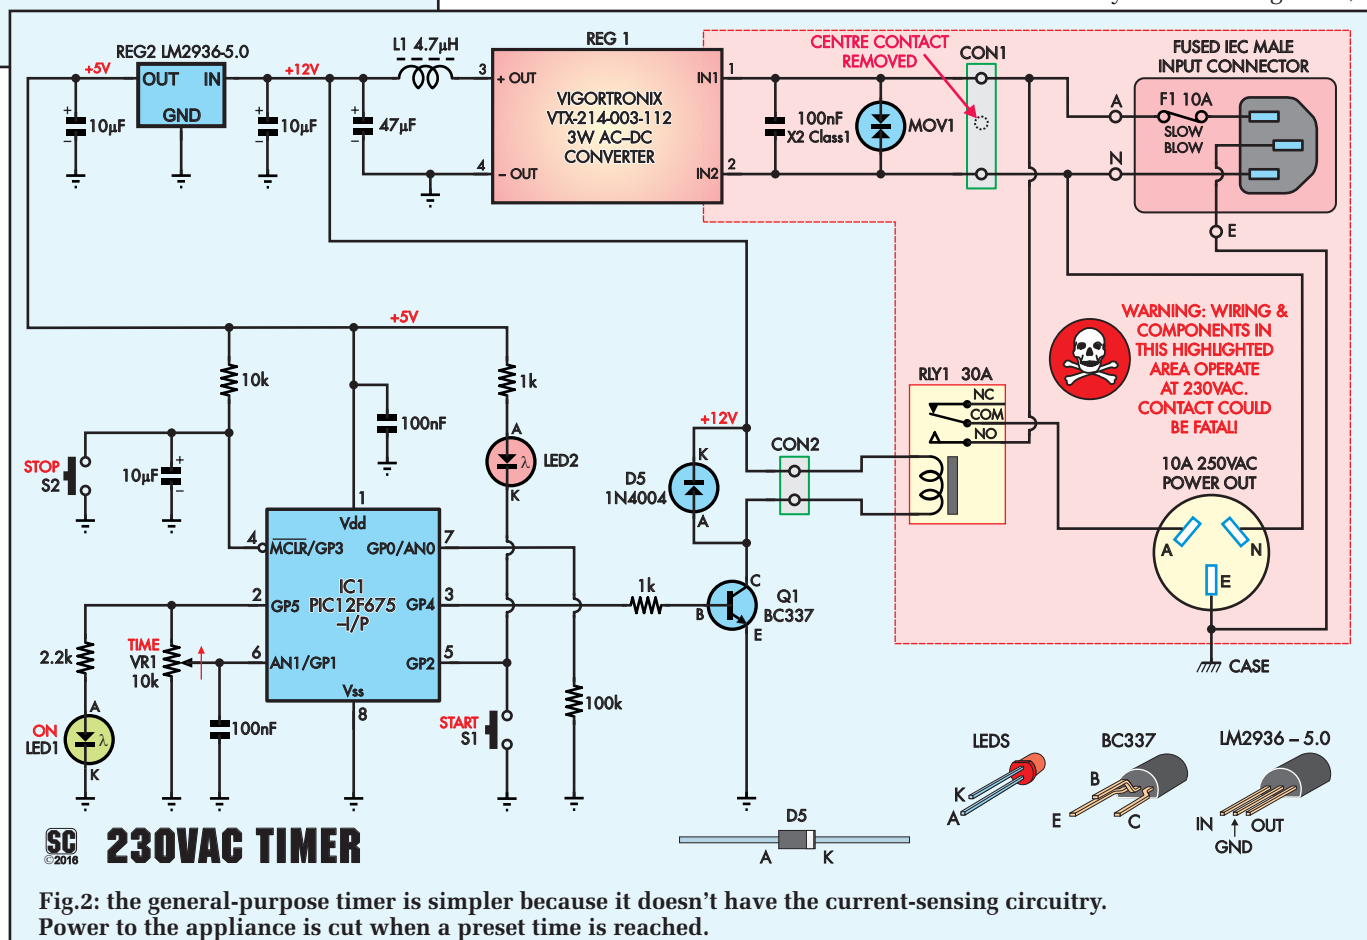

Fig.2: the general-purpose timer is simpler because it doesn't have the current-sensing circuitry. Power to the appliance is cut when a preset time is reached.
So that describes the circuit operation of the Cyclic Pump Timer. Now let's have a look at Fig.2 which is the circuit of the simpler 230VAC Timer.
Note that both versions of the circuit, Fig.1 and Fig.2, use the same programmed microprocessor. It needs to detect which circuit it has been installed in and then it selects the correct software routine. How does it do this?
Each time power is applied to the micro, it briefly pulls the AN0 pin high via an internal pullup resistor. After the pullup is switched off, 100 milliseconds later it measures the voltage at pin 7. If the voltage is above 200mV, that tells the micro that it is connected in the Cyclic Pump Timer circuit and it operates accordingly. On the other hand, if the voltage at pin 7 is very close to zero, that means that there is no 10 $\mu$ F capacitor present and the micro is in the circuit of Fig.2.
- 1 5mm high intensity red LED (LED3 in Fig.1 or LED2 in Fig.2)